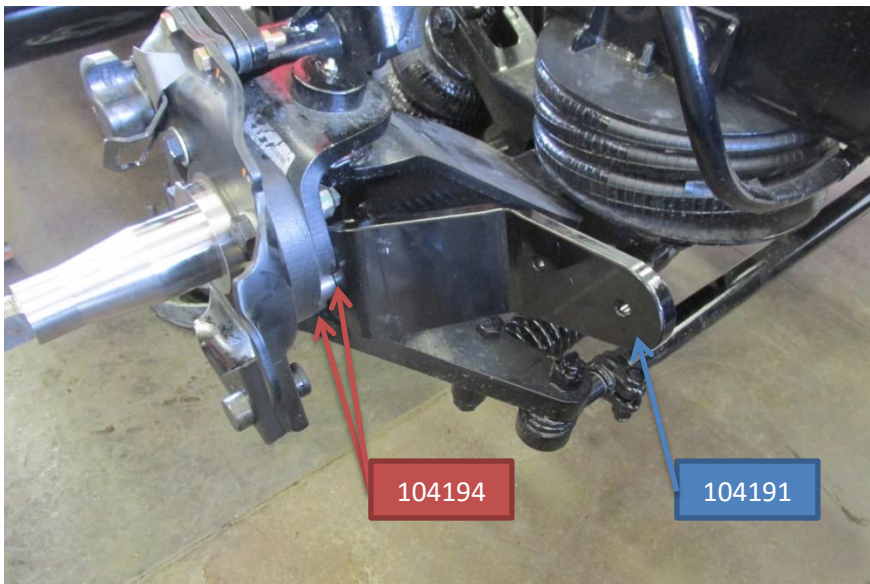
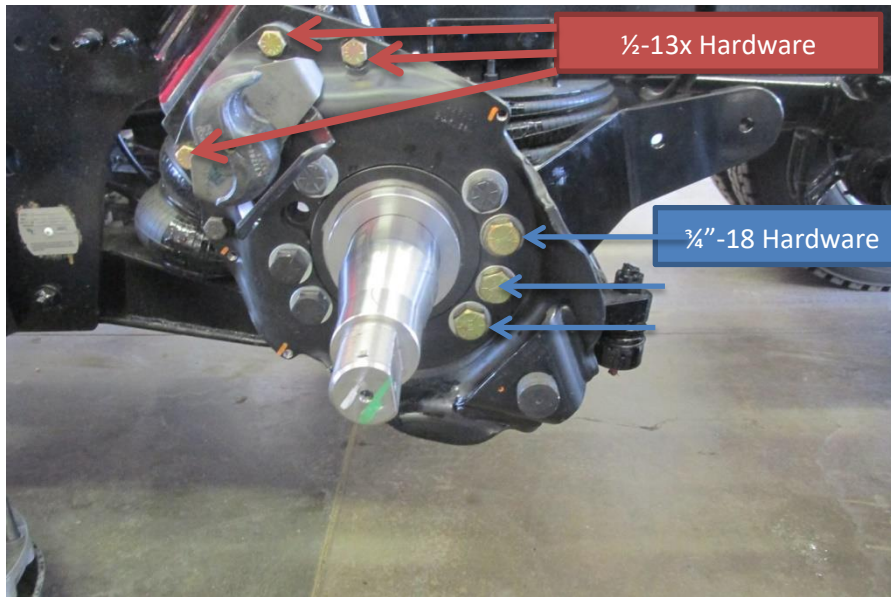

Figure 6 - Bracket and Spacer Installation
Figure 7 - View of Bolts & Brackets Installed
8. Install the rear bracket (104191) using the spacers (104194) between the bracket and the spindle on the two bottom holes as shown in Figure 6 and Figure 7 below. The upper hole does not require a spacer. Use the $\frac{3}{4}$ -16" bolts and locknuts that are provided in the kit. Torque the $\frac{3}{4}$ " hardware to 315 ft.-lbs.